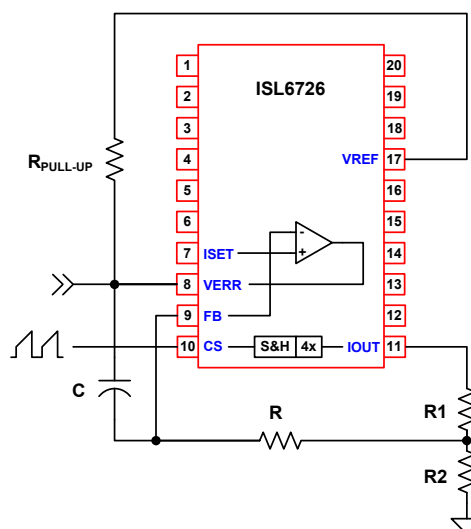

FIGURE 13. AVERAGE CURRENT CONFIGURATION
IOUT may be used with the available error amplifier (EA) of the ISL6726 as shown in Figure 13. The error amplifier is typically configured as an integrator. As shown in Figure 13, IOUT is attenuated by resistors R_1 and R_2 so that the average current limit threshold can be set independently of the peak current limit threshold. The integrator bandwidth is determined by R and C . The current error amplifier is similar to the voltage EA found in most PWM controllers, except it cannot source current. VERR requires an external pull-up resistor.